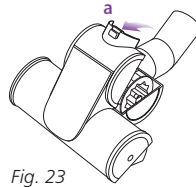

Fig. 23
- 1 Slide the locking latch (a) forward and gently tilt brush housing upward to open. (Fig. 23)